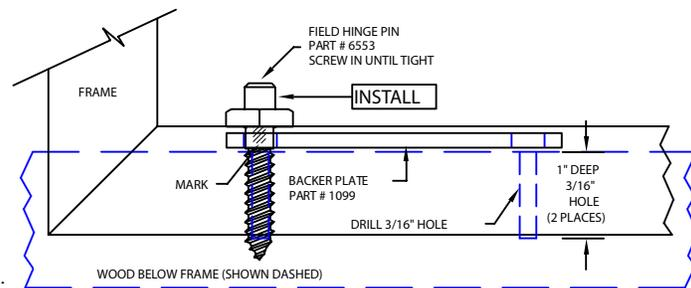

Figure 3
- Screw in hinge pin until tight. **Figure 3.**
- Drill another 3/16" pilot hole one inch deep through the other opening in the backer plate. **Figure 3**